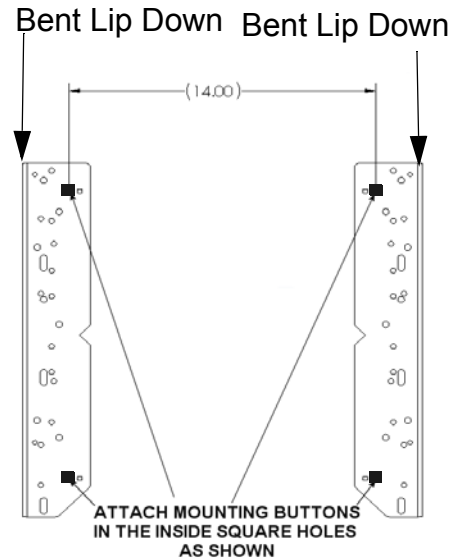
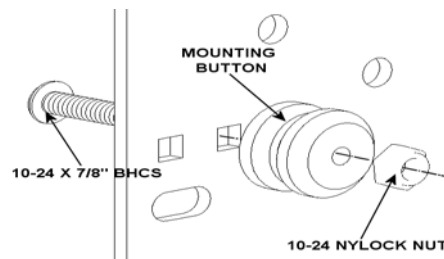

Figure 2. Brackets for Groups 1-11 with Bent Lip Down
Figure 3. Button Installation for Groups 1-11
Each interface bracket has 4 square holes for attaching mounting buttons (See Figure 2). The square holes in the brackets are arranged in a 14” vertical spacing pattern.
1. Lay the brackets out with the bent lip of each interface bracket down (see Figure 2).
3. Using the mounting buttons and hardware in parts bag A, attach the mounting buttons in the square holes closest to the middle (inside) of each interface bracket (see Figure 2 and Figure 3).